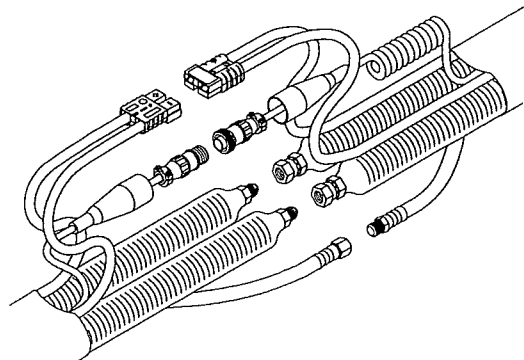

Figure 7. Hose Connection Step (a)
- a) Lay out the heated hose assemblies as shown (see Figure 7).